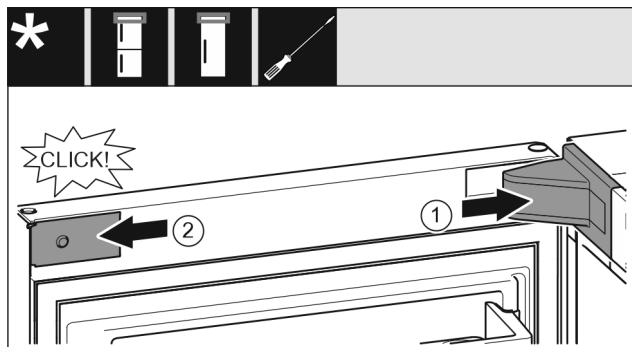

Fig. 65
- Put the swap bearing block cover Fig. 65 (1) on and engage, push apart carefully if required.
- Place the trim Fig. 65 (2) on the side and engage.